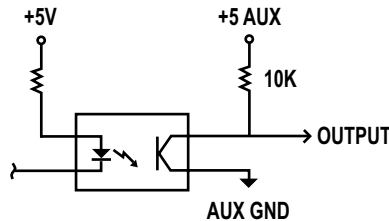

Figure 2 - Fault Output Circuit
**NOTE:** Logic *high* output minimum voltage ( $V_{OH}$ ) is 2.5V; logic *low* output maximum voltage ( $V_{OL}$ ) is 0.8V. See circuit in Figure 2.